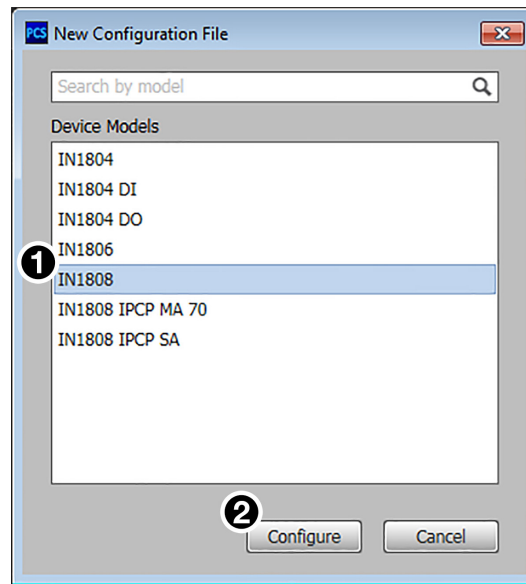

Figure 38. New Configuration File Dialog Box
2. Select the desired device model from the **Device Models** list (see figure 38, ①). In figure 38, **IN1808** (standard model) was selected.
3. Click the **Configure** button (②). A new offline device configuration tab opens.